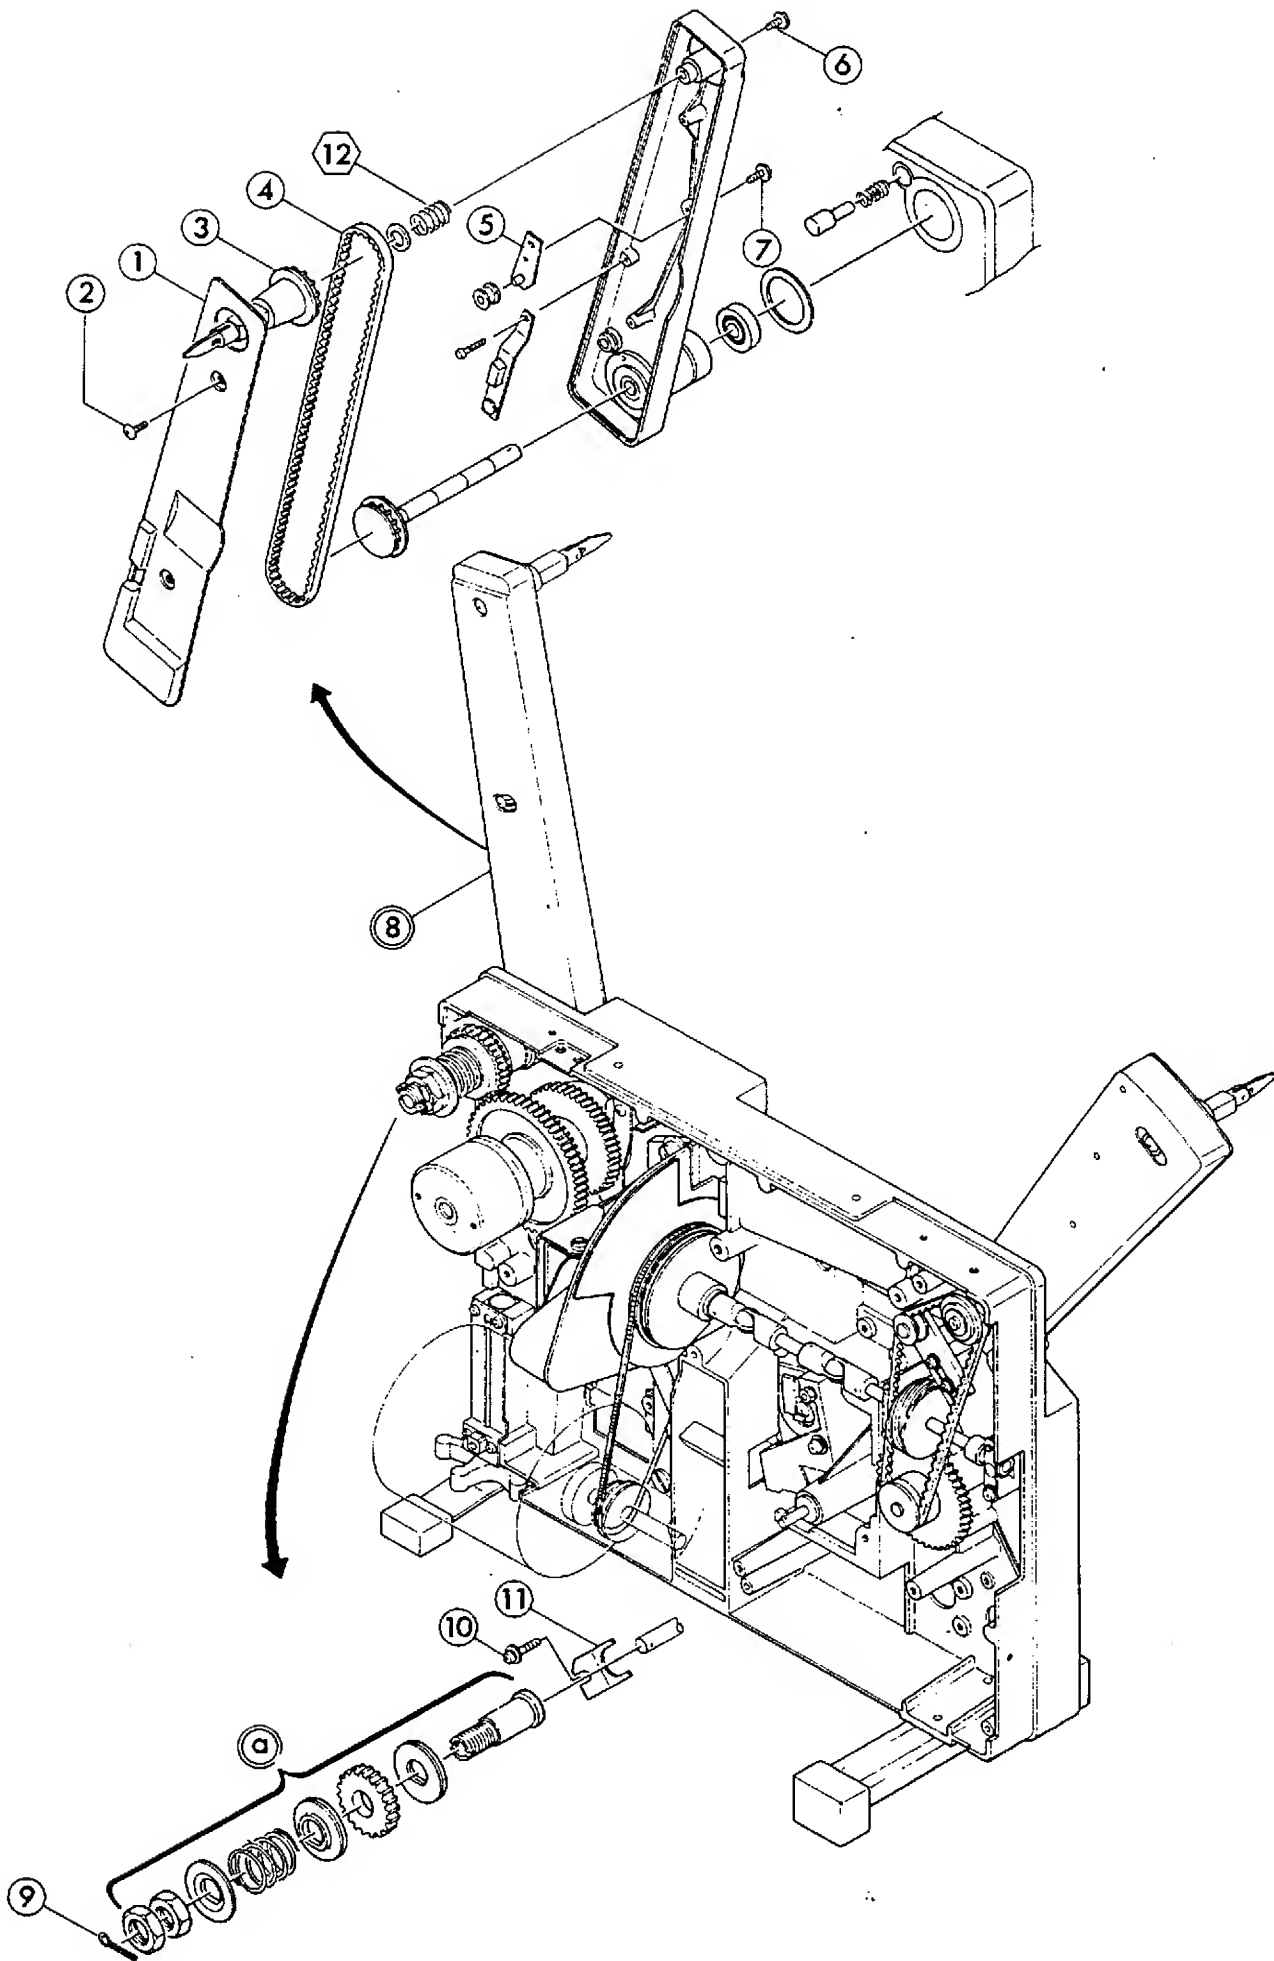

Fig. 3
- * Remove (a) in Fig. 3 together by detaching Fig. 3-9.